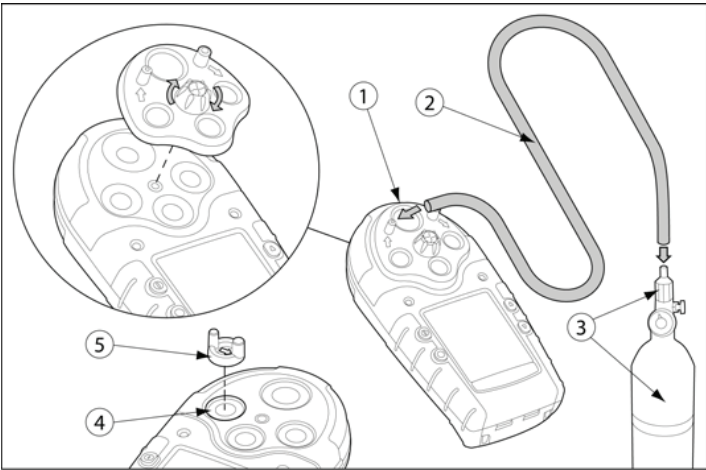

Figure 3. Applying Gas to the Sensors
The calibration cap, single gas calibration cap, and hose are shipped with the detector. Refer to Figure 3. and Table 11. for installation.
If an O₃ or ClO₂ sensor is located in the Toxic 2 position (refer to Figure 3. and Table 11.), a single gas calibration cap must be used to ensure accurate calibration.
1. Insert the cap into the Toxic 2 sensor position on the detector (refer to Figure 3.). Press firmly until the release tabs click.
Attach the calibration cap (or single gas calibration cap for O₃ and ClO₂) and apply gas to the sensor(s). To attach caps, refer to Figure 3.